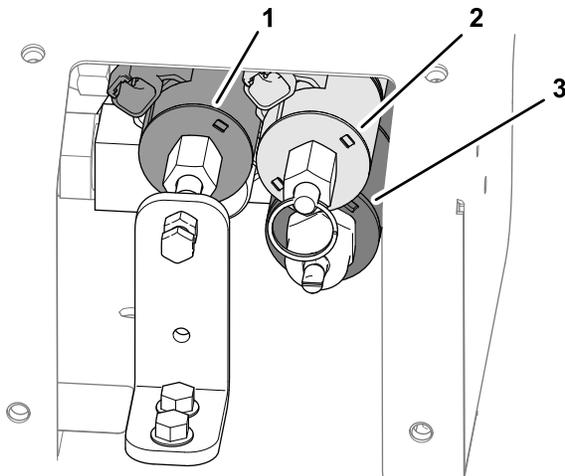

Figure 29
- 3. Locate the 3 control valves (Figure 29).